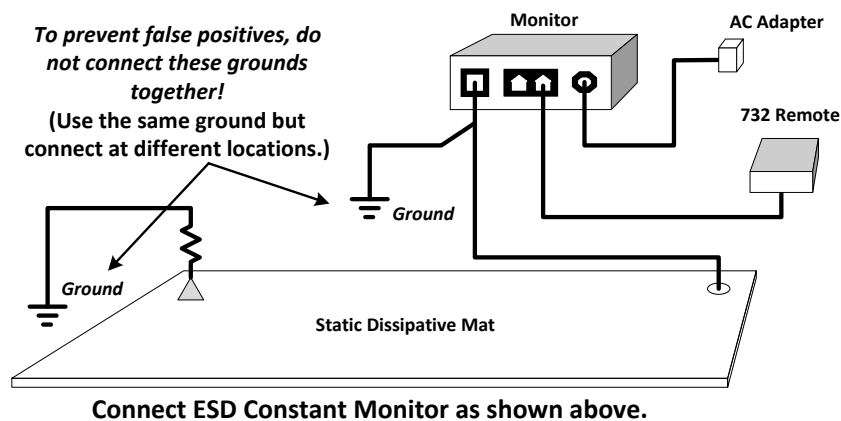

Figure 04-26 Model 722 or 724 CMS Block Diagram
- The Model 722 and 724 CMS shall be connected as shown in the following diagram (Figure 04-26)